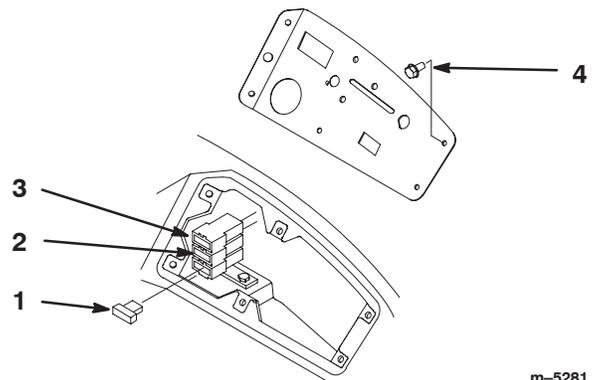

Figure 95
1. Remove dash panel screws to gain access to fuse holder (Fig. 95).
2. To replace fuses pull out on the fuse to remove it (Fig. 95).